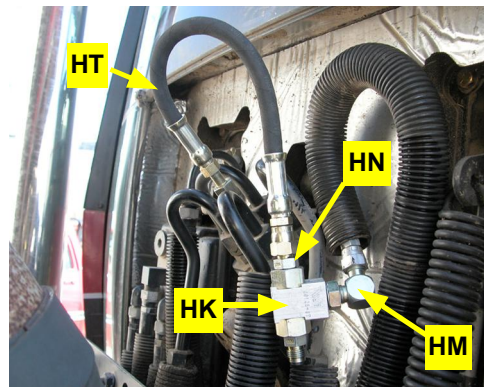

Figure 8-3d: Connecting the shuttle to the load sense port
d. Connect the tractor load sense hose to fitting **HM** on the load sense shuttle **HK** (Figures 8-3d).
e. Install the provided hose **HT** between the load sense port on the steering orbital and the fitting **HN** on the load sense shuttle **HK** (Figure 8-3d).